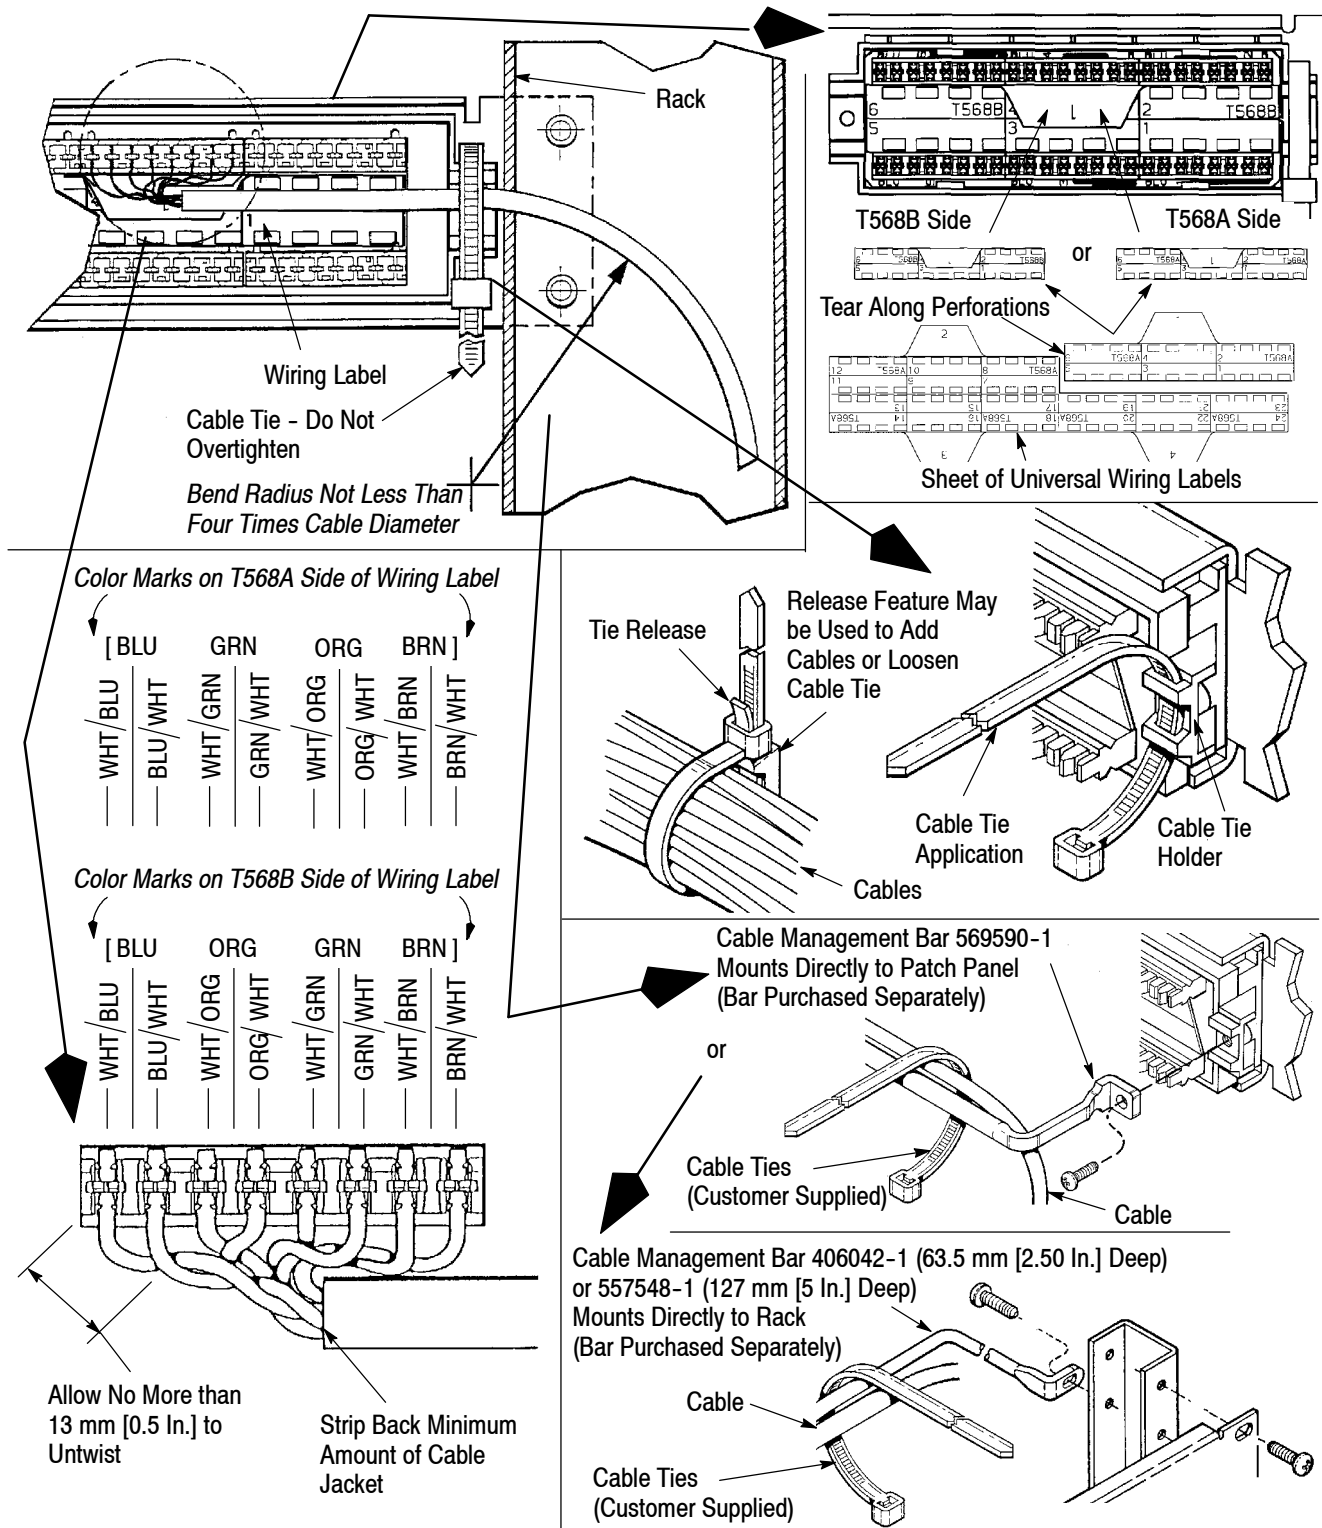

Figure 2
3. INSTALLATION PROCEDURES (Figure 2)
Guidelines covered in the above specification and shown in Figure 2 must be followed.